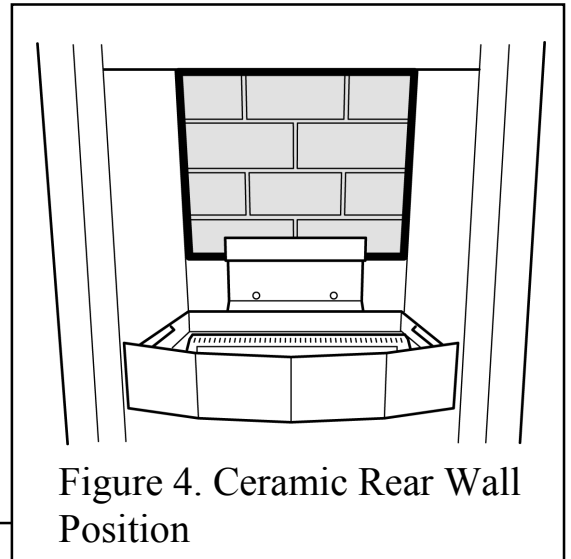

Figure 4. Ceramic Rear Wall Position
1. Fit the ceramic rear wall into the bracket at the back of the firebox .See figure 4.